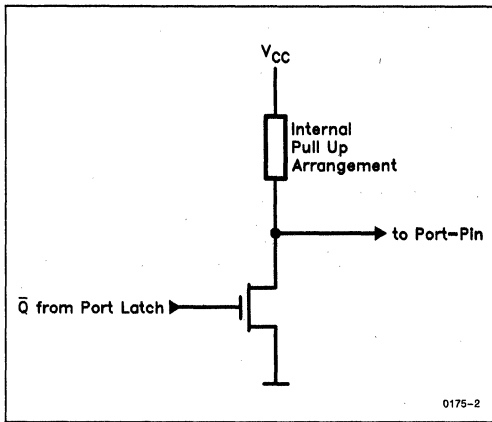
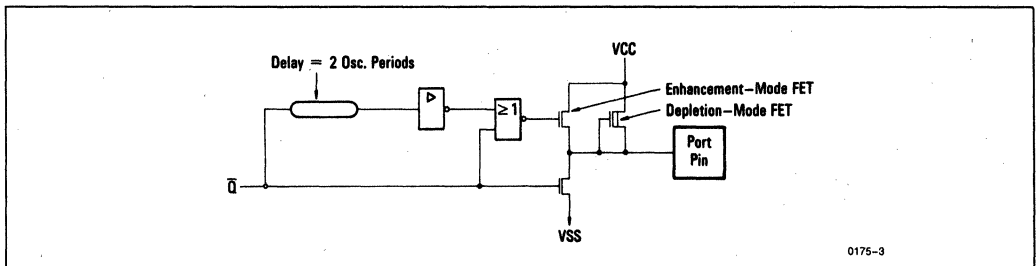

Figure 3-2. Basic Output Driver Circuit of Ports 1 through 5
Figure 3-3. Output Driver Circuit of Ports 1 through 5, Detailed Circuit Diagram
Port 1 through 5 output drivers have internal pullups (see Figure 3-2). Each I/O line can be used independently as an input or output. To be used as an input, the port bit must contain a one (1) (that means for Figure 3-2: $\bar{Q} = 0$), which turns off the output driver FET. Then, for ports 1 through 5, the pin is pulled high by the internal pullup, but can be pulled low by an external source. When externally pulled low the port pins source current. For this reason they are sometimes called "quasi bidirectional". In fact, the pullups mentioned above and drawn in Figure 3-2 are pullup arrangements as shown in Figure 3-3. Two pullup FETs are used because the deep depletion type is able to restrict the low level input current (I_{IL}) when externally pulled low, but it is not strong enough to drive a fast 0 to 1 transition at the port pin. For the latter purpose an additional pullup is turned on for the two phases (S1P1 and S1P2) in which the transition occurs. The extra pullup can drive about 100 times the current that the normal pullup can. It should be noted that all internal pullups are FETs, not linear resistors.